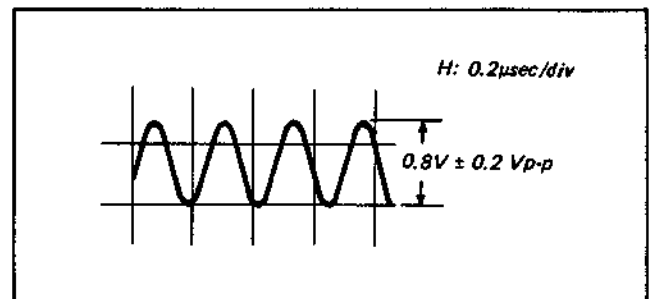

Fig. 4-4-23. Output level check
- (1) Do not supply the VTR with any signal and set up the E-E mode.
- (2) Connect the frequency counter to emitter of Q91.
- (3) Adjust LV2 on the CF-2 board so that the oscillating frequency is $4.40625 \text{ MHz} \pm 1 \text{ kHz}$.
- (4) Check that the output level is $0.8 V \pm 0.2 V_{p-p}$. (See Fig. 4-4-23.)